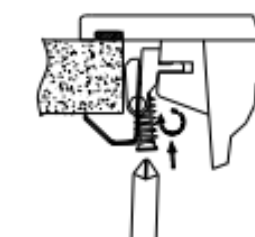

Fig.3
9. Fix the sink to the worktop by tightening the screws on the fixing clips clockwise (fig. 3) using a cross-head screwdriver, the sink frame will pull down tight and flat to the top surface of the worktop.